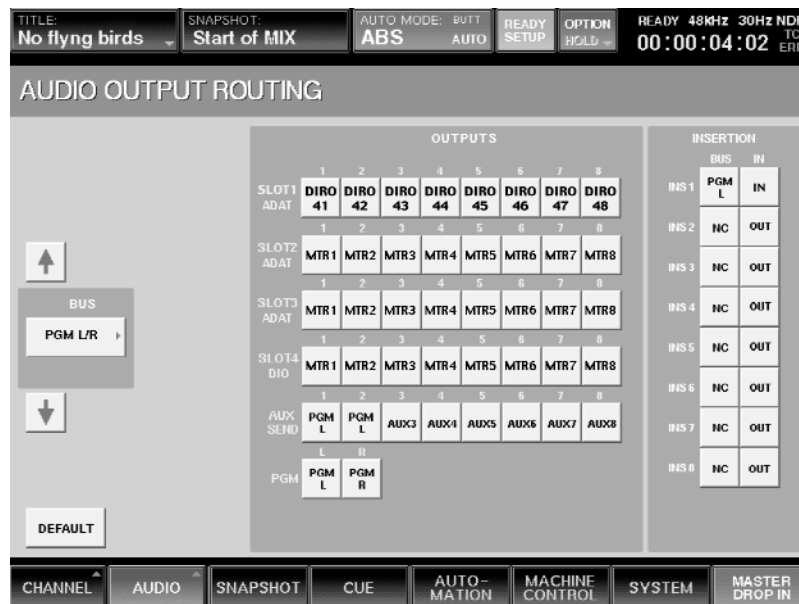

Figure 25
- 2 From the drop-down menu, press L, then press INS 1 in the Insertion section (right-hand side of the screen). PGM L will be selected for Insert 1, which will also be set to IN. (See Figure 25)